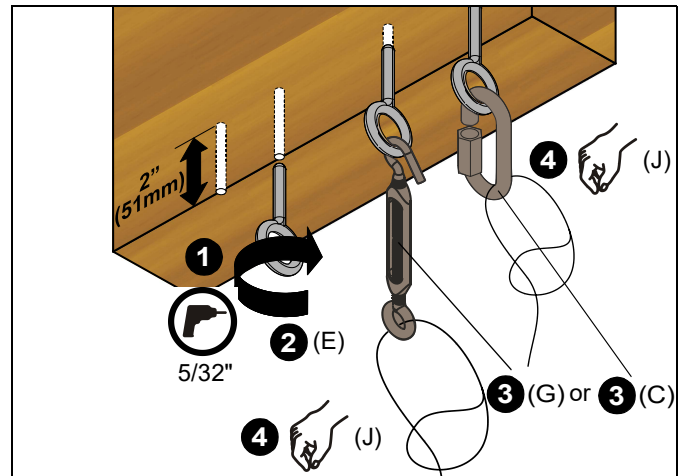

Figure 2
1. Drill 5/32" diameter x 2" deep hole at each marked cable anchor support location (See Figure 2). Remove debris from hole.
2. Fully thread eye lag (E) into each hole (See Figure 2).
3. Hang turnbuckle (G) or connecting link (C) through the hole on each eye lag (F). (See Figure 2)
4. Route end of cable (J) through turnbuckle (G) or connecting link (C) hole and then through cable loop. (See Figure 2)